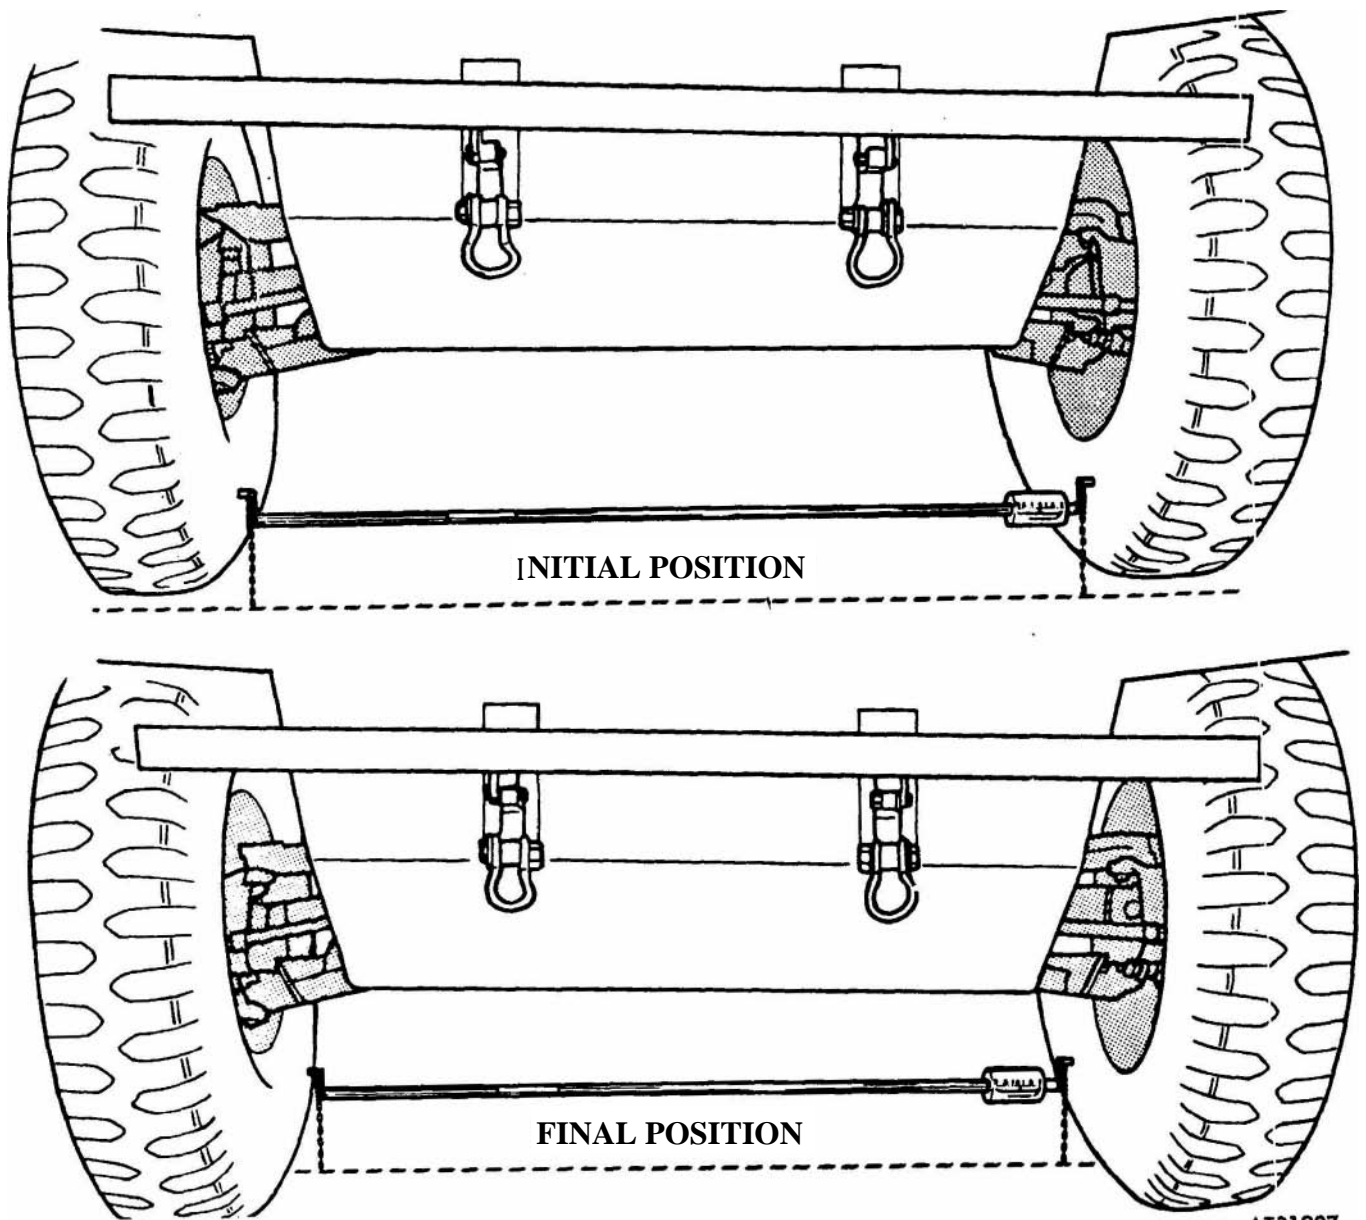

Figure 2-254. Wheel alignment.
(2) Loosen lockouts on both ends of front tie rods.
(3) Place suitable wheel alignment toe-in gage between front tires. ahead of the vertical centerline of the **wheels** (fig 2-254). Position the gage so both **chains** just touch the floor. Move the *gage scale* to read zero.
(4) Push vehicle forward until gage is behind the vertical centerline of the wheels and the chains are just touching the floor.
(5) Read *gage*. Reading should be $1 / 16$ to $1 / 8$ inch.
(6) If reading is not within limits, remove gage and turn both tie rods an equal amount (either direction), and repeat steps (3) through (5) above until correct adjustment is obtained then tighten lock nuts to 90-100 lb-ft.
(7) Loosen lock nuts on both ends of carrier tie rods, and repeat **steps (3)** through (6) above to adjust toe-in on the carrier **wheels**.